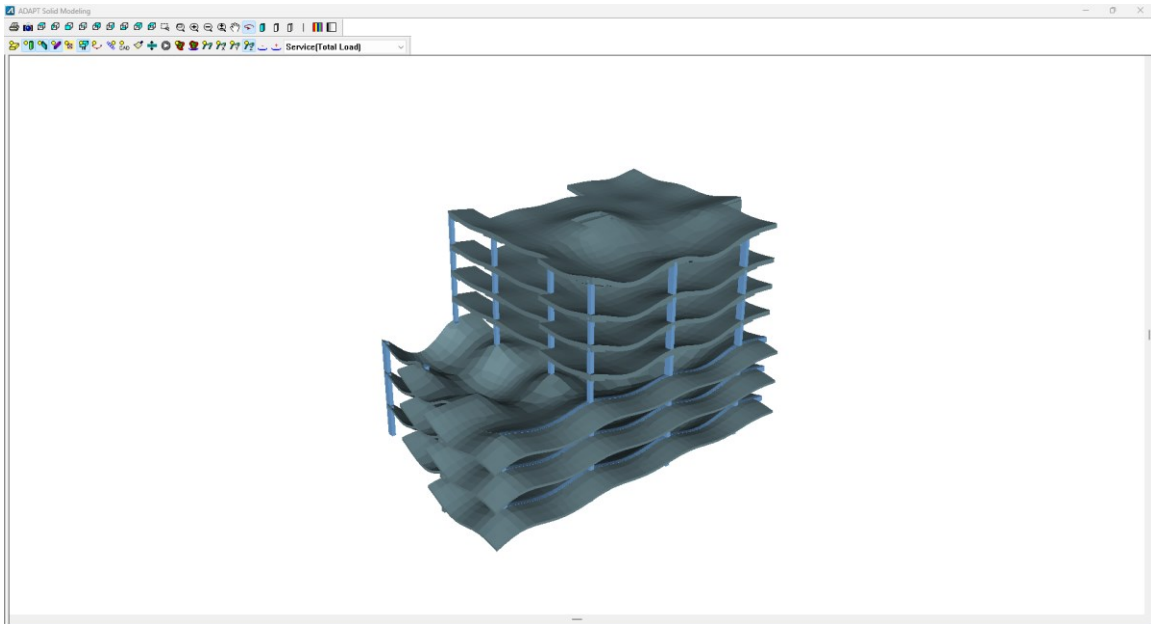

FIGURE 7-18
- Click on the **Solid Modeling Z-deflection Contour**  icon. The user should now see the model in a solid view showing the deflected shape in the Z-direction of all components as shown in **FIGURE 7-18**.